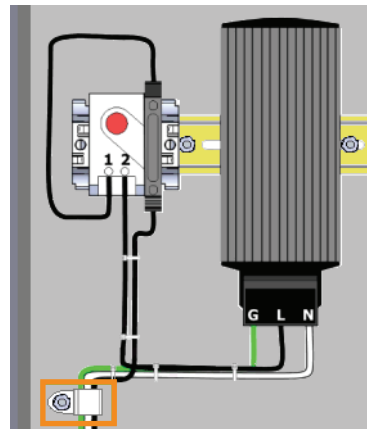

Figure 2 Secure Heater Wires
- Step 2. Secure the heater wires with the plastic clamp, washer, and the remaining nut. See *Figure 2*.